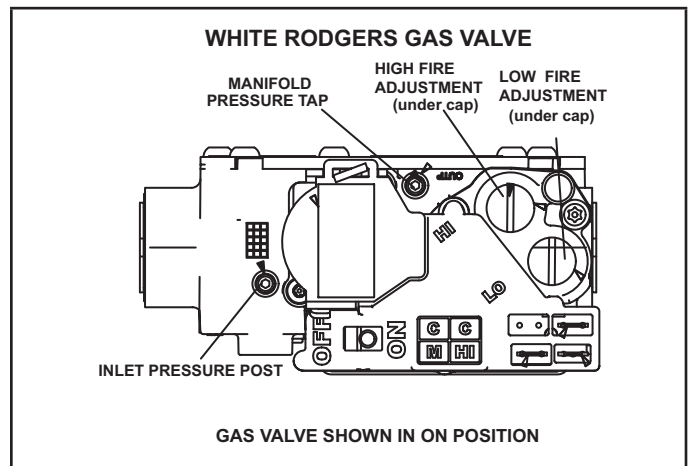

FIGURE 39
Gas Valve Operation (FIGURE 39)
- 6 - Move switch on gas valve to OFF. Do not force. See FIGURE 39.
- 8 - Move switch on gas valve to ON. Do not force. See FIGURE 39.
An inlet post located on the gas valve provides access to the supply pressure. See FIGURE 39. Back out the 3/32" hex screw one turn, connect a piece of 5/16" tubing and connect to a manometer to measure supply pressure. See TABLE 29 for supply line pressure.
A manifold pressure tap located on the gas valve provides access to the manifold pressure. See FIGURE 39. Back out the 3/32 hex screw one turn, connect a piece of 5/16" tubing and connect to a manometer to measure manifold pressure.
- 4 - If necessary, make adjustments. FIGURE 39 shows location of high fire and low fire adjustment screw.